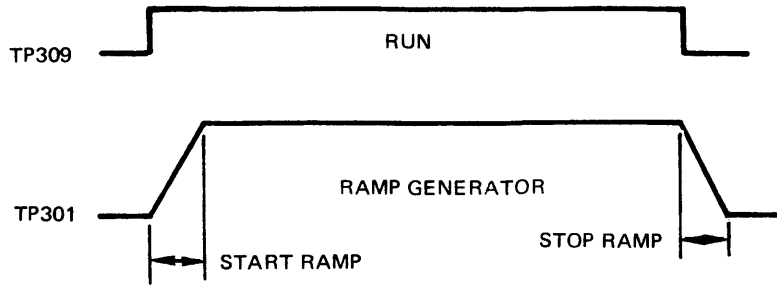

Figure 5-8. Ramp Adjustment Traces
- d. Adjust potentiometer R333 to obtain applicable ramp time specified in Table 5-4. (See Figure 5-8.)